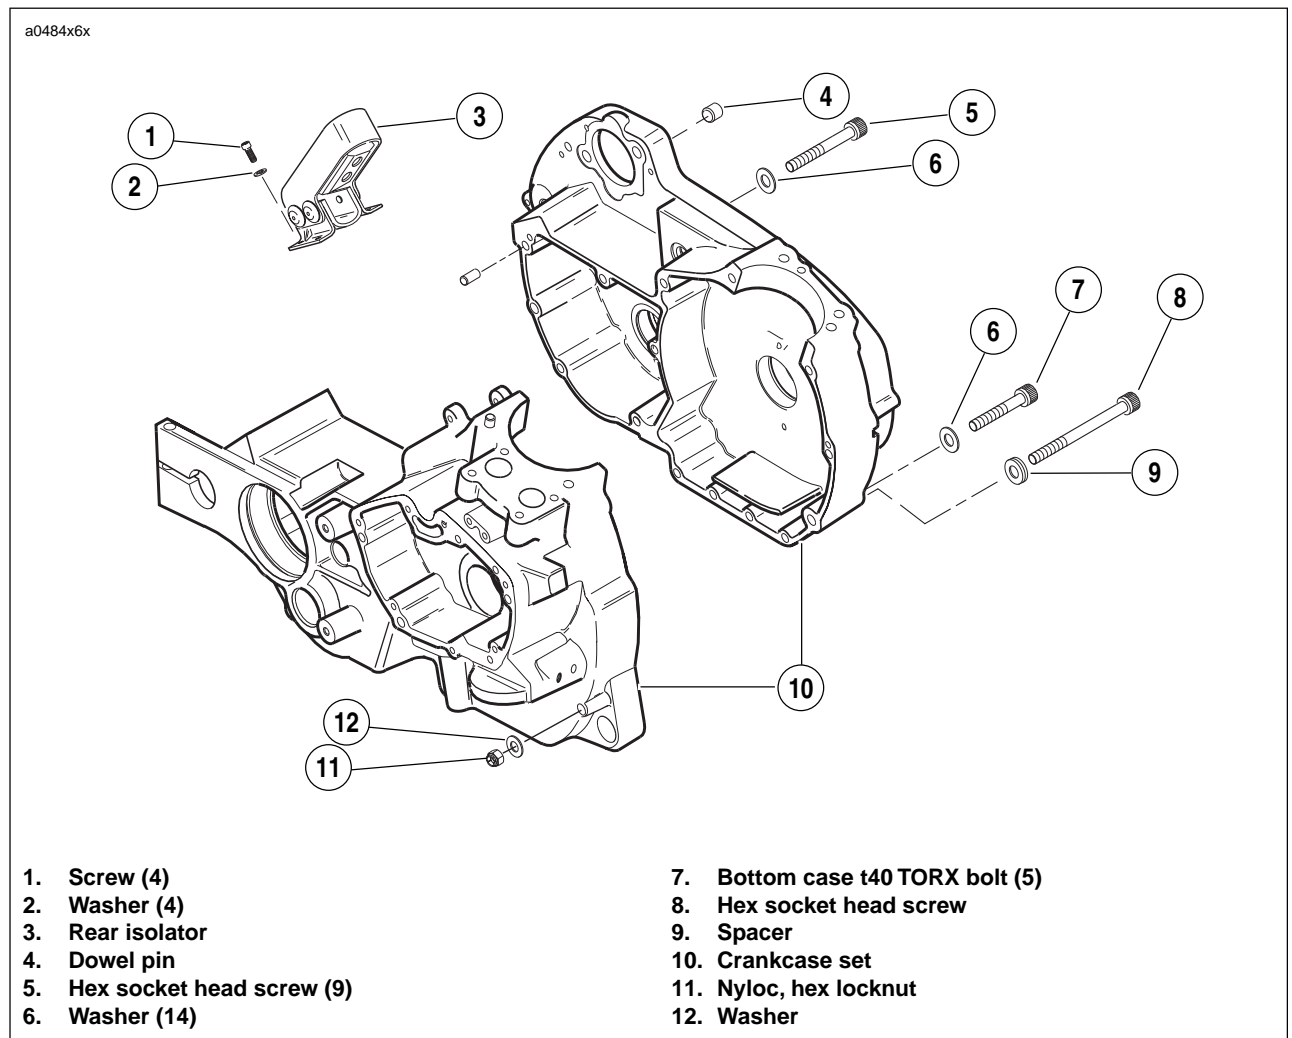

Figure 6-26. Crankcase Hardware
14. See Figure 6-26. Remove all transmission case bolts.
15. Remove rear isolator (3) and mounting hardware (1, 2).